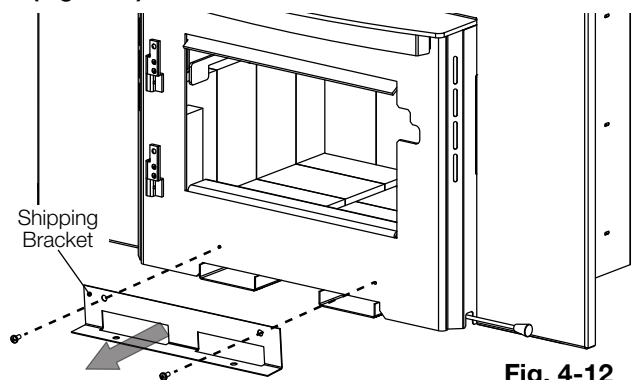

Fig. 4-12
- Remove the shipping bracket by removing the two screws (**Fig. 4-12**). Discard the bracket and set the screws aside.